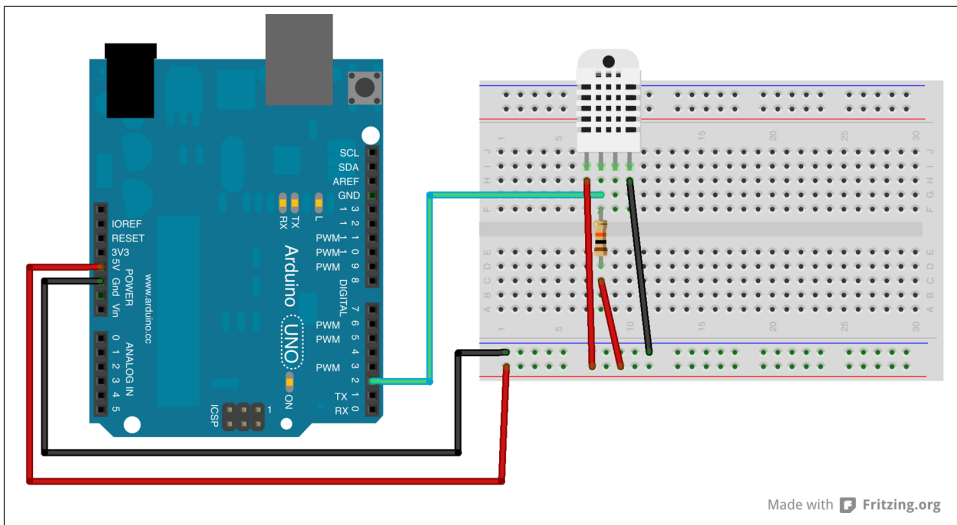
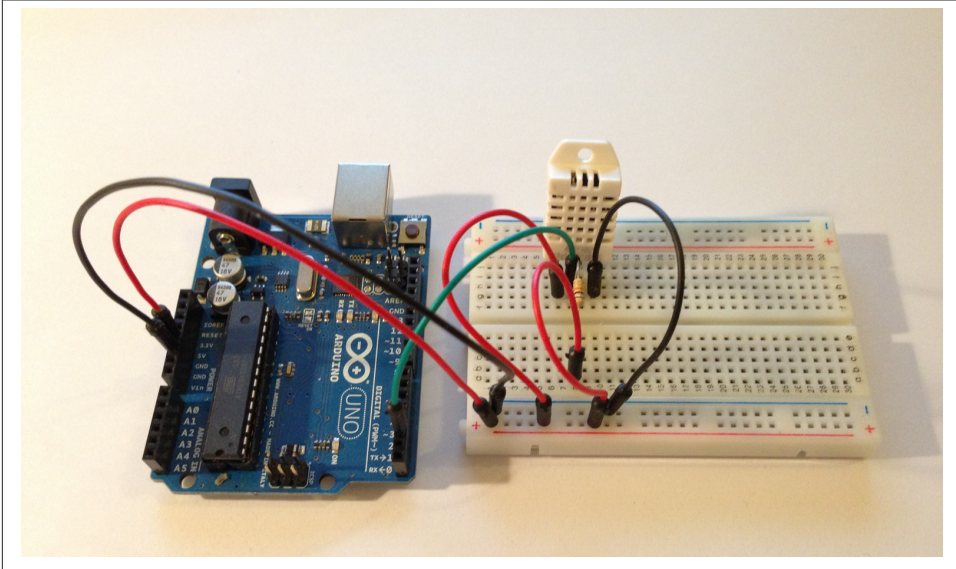

Figure 2-3. The wiring diagram
Figure 2-4. The Arduino and breadboarded DHT-22 sensor
Connect the +5V pin on your Arduino to the +ve rail of the breadboard, and one of the ground (GND) pins to the -ve rail. Next, plug the DHT-22 into the breadboard such that each pin is in a separate row (rather than on the same row, which would mean all the pins would be electrically connected to each other), and orientated it so that the front side of the sensor is facing towards the middle of the breadboard (see Figure 2-3).
Insert a 10kΩ resistor so that it bridges the gap between the two sides of the breadboard, connecting the data pin (PIN 2) to the other side of the gap, then a jumper from that row to the +5V rail (see Figure 2-3 again).
If you've followed the instructions and wired the breadboard as laid out in Figure 2-3, you should have something that looks a lot like Figure 2-4.
- ❶ We need to remember to import the Adafruit DHT library
- ❷ The DHT library actually supports the DHT-22, DHT-11, DHT-21, and AM2301 sensors. Here, we're telling it which of the four supported sensors we're using.
- ❸ Defining the pin to which the DHT data pin is connected; see Figure 2-3.
- ❹ The DHT library provides two routines that `readTemperature()` and `readHumidity()`. By default, `readTemperature()` will return the temperature in centigrade, however by passing a 1 we can make it return Fahrenheit.